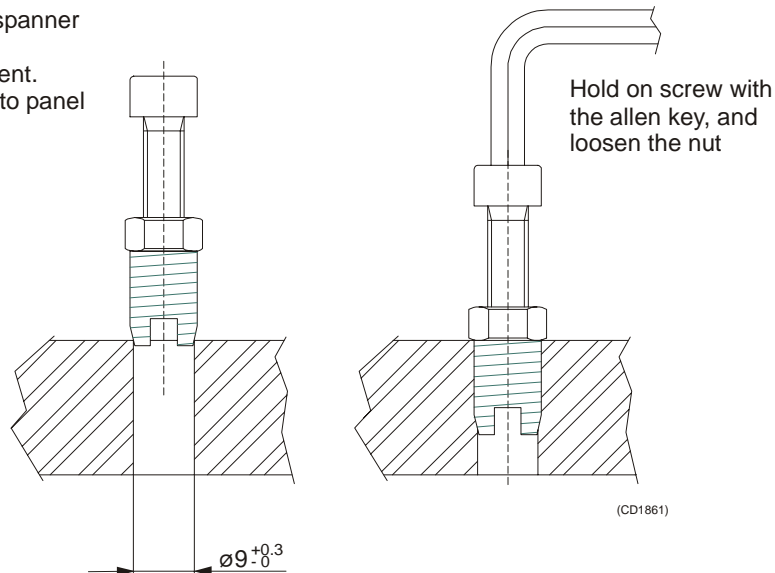

Figure 12 Mounting the thread inserts
- b** Wooden panel: Drill 9mm holes for the four thread inserts which are located in the spare parts box. Refer to figure 12 for information about mounting the thread inserts.